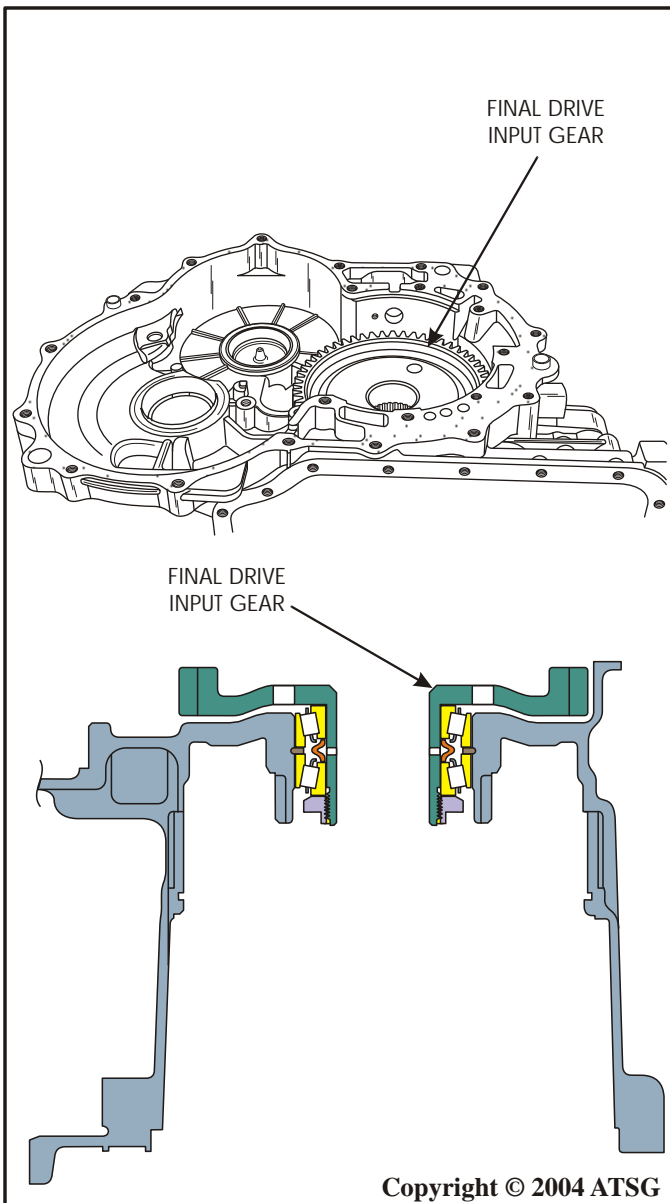

Figure 53
57. This now leaves nothing in the case except the final drive input gear, as shown in Figure 53.
Note: *This gear involves an exceptional amount of set-up time if it is removed, as it involves a "Crush" sleeve (See Figure 53). Our recommendation is "Not" to remove it, if there is no problem with the bearings. "If there are problems with the bearings", refer to the complete bearing and shim set-up in the Component Rebuild section.*